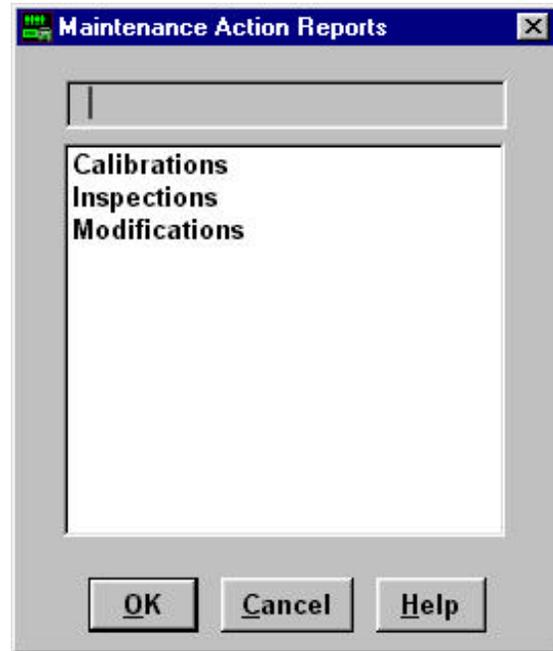

Figure 3.
3. MAINTENANCE REPORTS. As we discussed in a previous class, LOGAIS was designed to support the entire S-4 shop to include Maintenance Management. And as we learned, MMO has their own computer systems to do what they need to do so they don't use LOGAIS. Select **Tools**, **Reports**, and **Maintenance** from the drop down menu. A box will appear with a selection of maintenance reports. (see figure 3.)